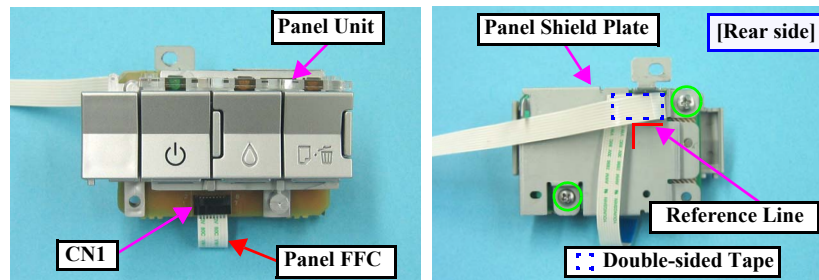

Figure 4-29. Removing the Panel Board / Buttons (2)
- Attach the Panel FFC with double-sided tape along with the reference line shown in Fig.4-29 \(p.69\).